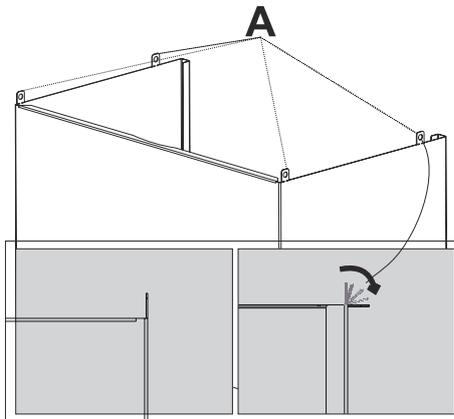

Fig. 17
6. → Pull the inner flue upwards through the outer flue. There are 4 mounting parts on the inner flue. Bend these fittings 90° towards the outside of the flue (Fig. 17).